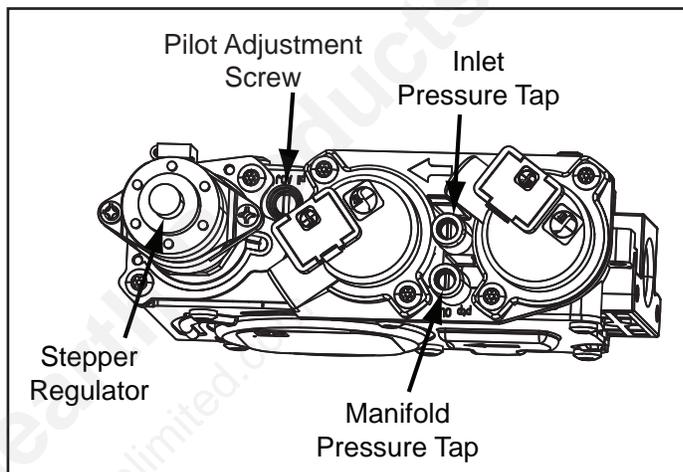

Figure 32: Gas Valve Diagram
- a) Remove the existing stepper motor using a T20 screwdriver (see Figure 32).
5. Light the pilot and recheck for leaks in the aluminum pilot line. If a leak is evident, contact your ENVIRO dealer for a pilot line replacement. **WARNING: DO NOT ATTEMPT TO FIX THIS LINE, IT MUST BE REPLACED IF DAMAGED.** The pilot should properly cover the thermocouple. If adjustment is necessary, turn the adjustment screw in the valve (see Figure 32) clockwise to decrease and counter-clockwise to increase until the correct flame is achieved.